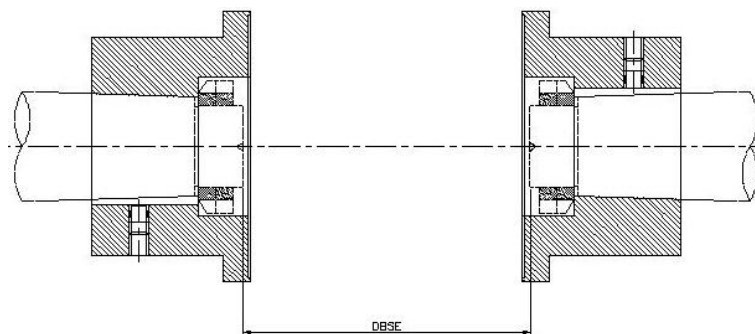

Fig. 4 Taper bore
3.2.2 Taper Bore (fig.4)
- Ensure hubs have been mounted as shown in fig.4, to maintain correct DBSE .
- Untighten nut (1) and remove pin bush assembly unit.